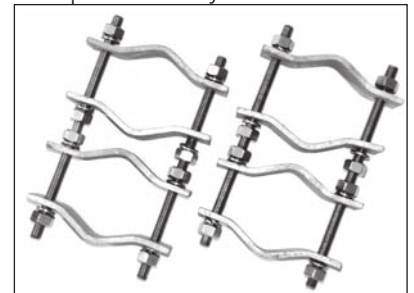

Figure 3: Assembly
3. Attach and secure the lower antenna clamp with supplied hex nuts and lock washers, and tighten both clamps until the lock washers are flat plus 1/2 turn additional on each nut. (Figure 3).